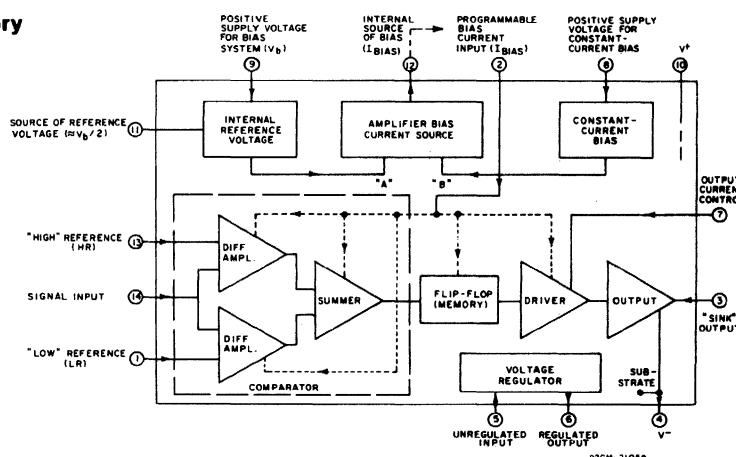

Fig.1—Block diagram of CA3099E programmable comparator.
RCA-CA3099E Programmable Comparator is a monolithic silicon integrated circuit designed to control high-operating-current loads such as thyristors, lamps, relays, etc. The CA3099E can be operated with either a single power supply with maximum operating voltage of 16 volts, or a dual power supply with a maximum operating voltage of ± 8 volts. It can directly control currents up to 150 mA. It operates with microwatt standby power dissipation when the current to be controlled is less than 30 mA. The CA3099E contains the following six (6) major circuit-function features (Figure 1):